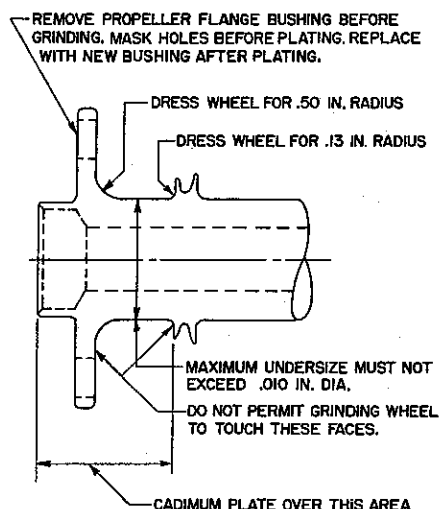

Figure 7-13. Reconditioning Crankshaft Oil Seal Surface
The grinding wheel, on the corner toward the propeller flange must be dressed to 0.50 inch radius while the opposite side, toward oil slinger, must be dressed 0.13 inch radius. Both radii must blend perfectly. Do not permit the side of the wheel to touch the propeller flange or face of oil slinger. See figure 7-13.
8. Cadmium plate (in accordance with AMS 2400) the flange and oil seal area of the crankshaft as indicated in figure 7-13. Do not plate beyond the 0.13 inch radius.